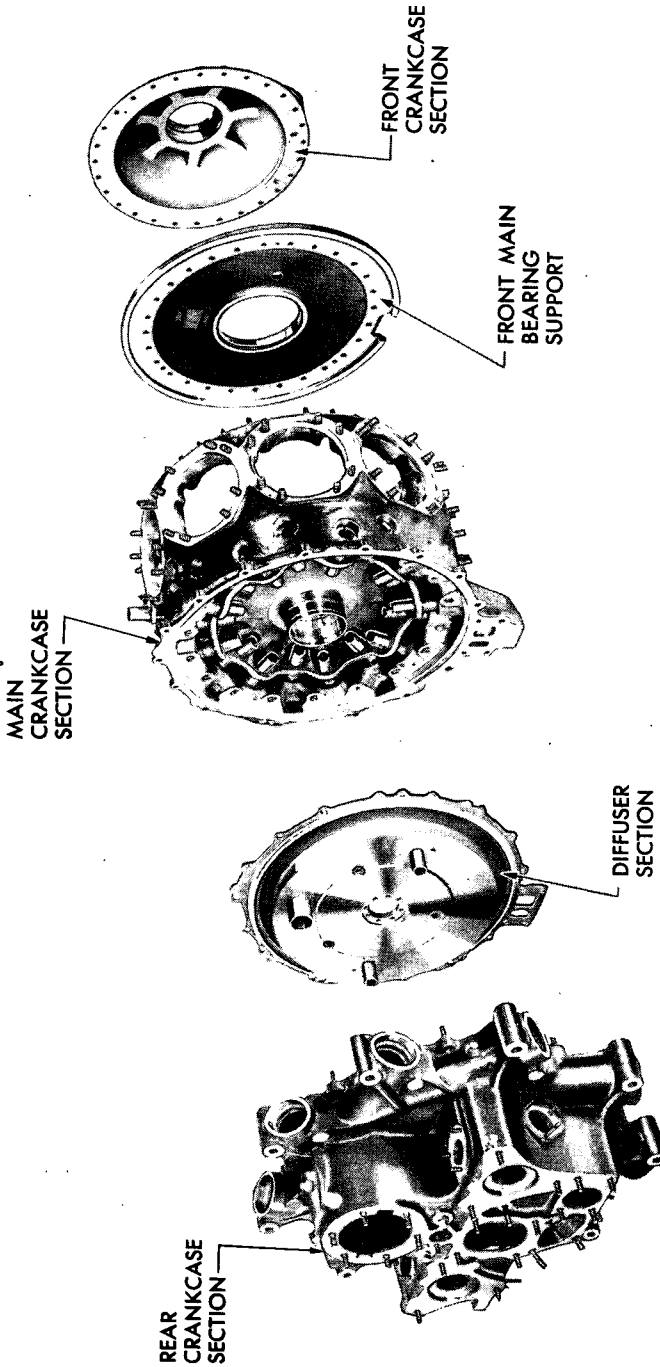

Figure 5 — Crankcase Sections
(2) **FRONT CRANKCASE SECTION.** The front crankcase section is a conical-shaped casting which houses the main thrust ball bearing and the mounting clamp for the engine front support bar (fig. 5). The front cover, which serves as a retainer for the main thrust bearing, is mounted to the front crankcase section over seven studs. The cover is secured to this section by flat washers and castellated nuts fastened with lock wire.
(3) **FRONT MAIN BEARING SUPPORT.** This section is a flat, aluminum-alloy casting which serves as a bulkhead between the front and main crankcase sections and supports the roller-type front main bearing (fig. 5).
(4) **MAIN CRANKCASE SECTION.** The main crankcase section casting has cylinder mounting pads and hold-down studs to support the cylinder assemblies. The section also supports the rear main bearing, and houses the cam ring, valve tappets and rollers, and valve tappet guides (fig. 5). The front crankcase section and front main bearing support are secured to the main crankcase section over studs anchored in the main section forward flange. The sections are attached by means of flat washers and castellated nuts installed over the studs. The tightened nuts are fastened with lock wire.
(5) **DIFFUSER SECTION.** The crankcase diffuser section is a flat casting which separates the main crankcase area from the diffuser and distribution chambers in the rear crankcase section (fig. 5). The diffuser section supports the diffuser ring, diffuser impeller and the drive mechanism, starter gear, two accessory drive idler gears, and the accessory drive gears. The directional vanes of the impeller aid in better distribution of the fuel mixture through the troughs in the diffuser ring, into the fuel induction tubes, and then into the cylinders. Three bushings project from the rear of the diffuser section. These bushings support those portions of the starter gear and accessory drive shafts which pass through the distribution chamber. The shafts extend through the distribution chamber to the rear crankcase section.